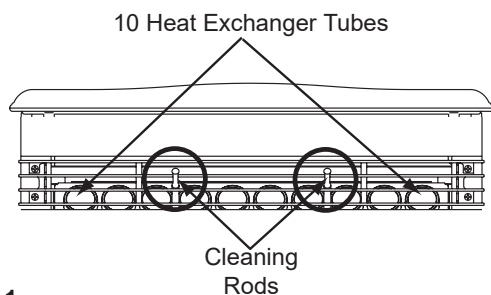

Figure 21.1
- Locate the 2 exposed rods directly underneath the heat exchanger tubes (**Figure 21.1**).